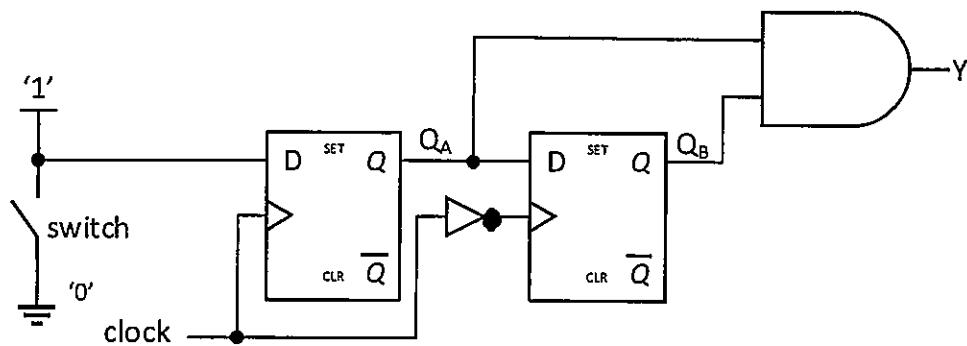

Figure Q4(a)(i) / Rajah Q4(a)(i)
- Q4. (a) Refer to the Figure Q4(a)(i), complete the timing diagram of Q and Y in Figure Q4(a)(ii) in attachment sheet. Assume the initial condition of Q is LOW.
- (b) Complete the circuit diagram in Figure Q4(b) in the attachment to make a 4-bit Serial-In-Parallel-Out shift register. Label the outputs A, B, C and D.